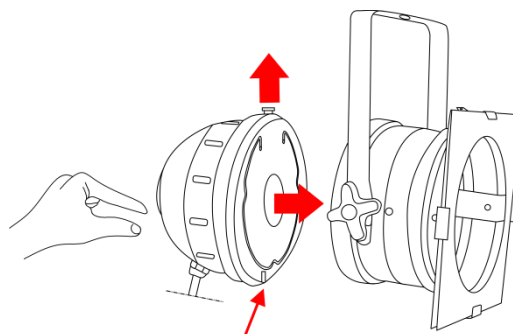

Fig. 07
- 07) Replace the rear cover of the lamp (Fig. 07). Make sure that the screw at the bottom of the rear cover fits in the hole at the bottom of the front cover.